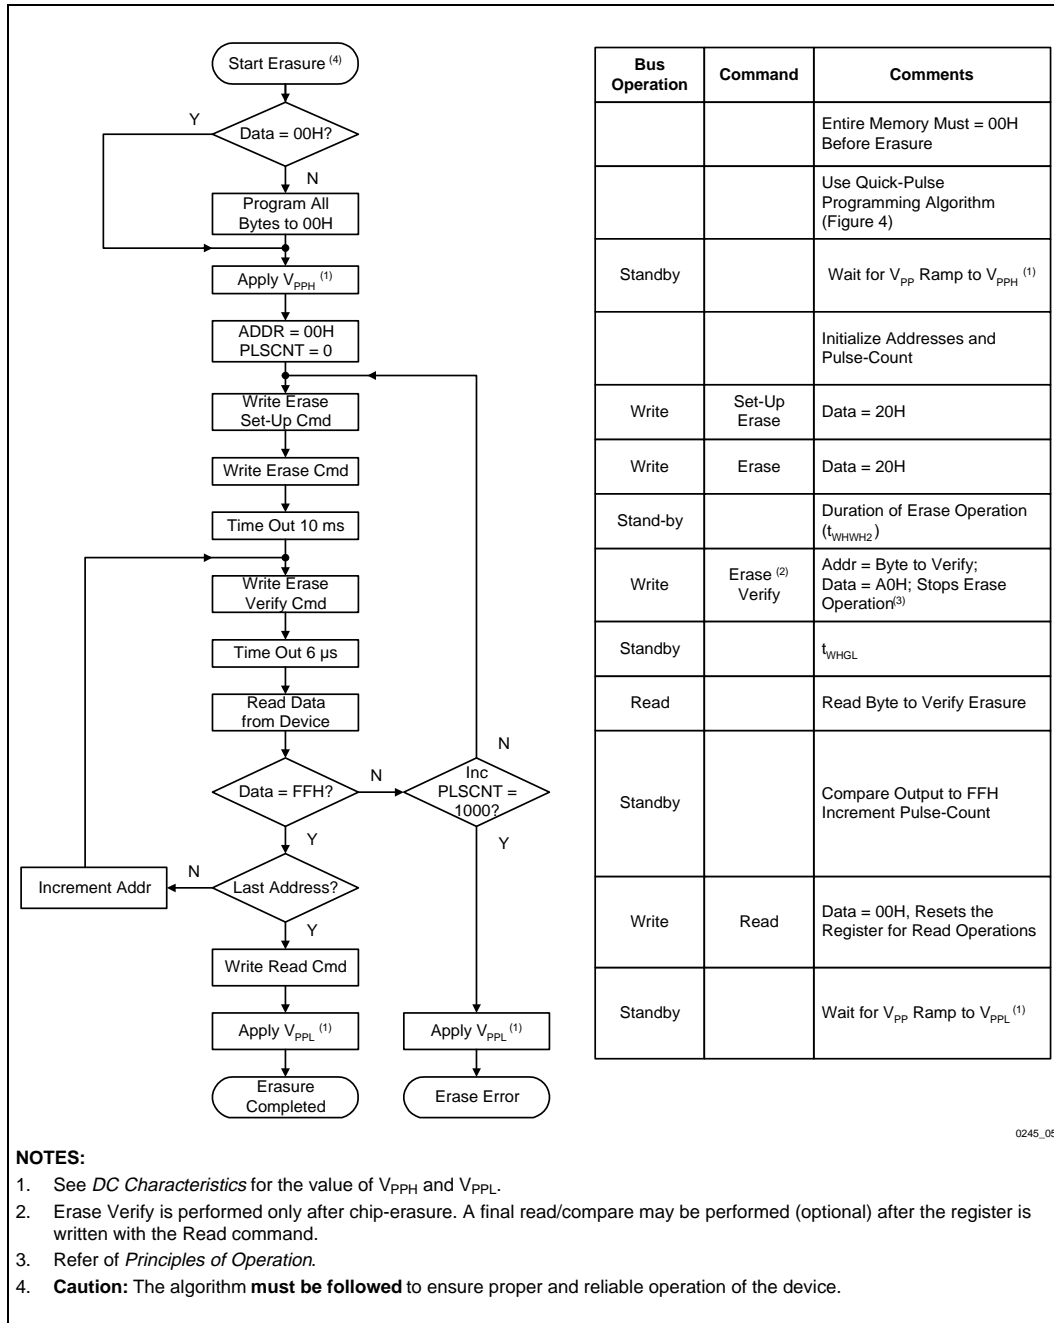

Figure 5. 28F020 Quick-Erase Algorithm
5. Figure 5 illustrates the *28F020 Quick-Erase Algorithm* flowchart.
In the case where the data read is not FFH, another erase operation is performed. (Refer to Section 2.2.2.3, *Set-Up Erase/Erase Commands*.) Verification then resumes from the address of the last verified byte. Once all bytes in the array have been verified, the erase step is complete. The device can be programmed. At this point, the verify operation is terminated by writing a valid command (e.g., Program Set-Up) to the command register. Figure 5, the *28F020 Quick-Erase Algorithm* flowchart, illustrates how commands and bus operations are combined to perform electrical erasure of the 28F020. Refer to *AC Characteristics—Write/Erase/Program Only Operations* and waveforms for specific timing parameters.
Erase execution then continues with an initial erase operation. Erase verification (data = FFH) begins at address 0000H and continues through the array to the last address, or until data other than FFH is encountered. With each erase operation, an increasing number of bytes verify to the erased state. Erase efficiency may be improved by storing the address of the last byte verified in a register. Following the next erase operation, verification starts at that stored address location. Erasure typically occurs in two seconds. Figure 5 illustrates the *28F020 Quick-Erase Algorithm* flowchart.